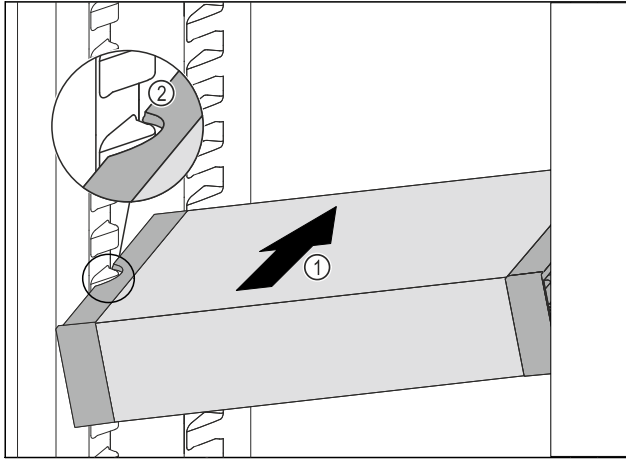

Fig. 119
- ▶ Insert the VarioSafe into the fridge section at an angle Fig. 119 (1) until the recesses in the side Fig. 119 (2) of the VarioSafe are at the level of the support rib in the fridge section.